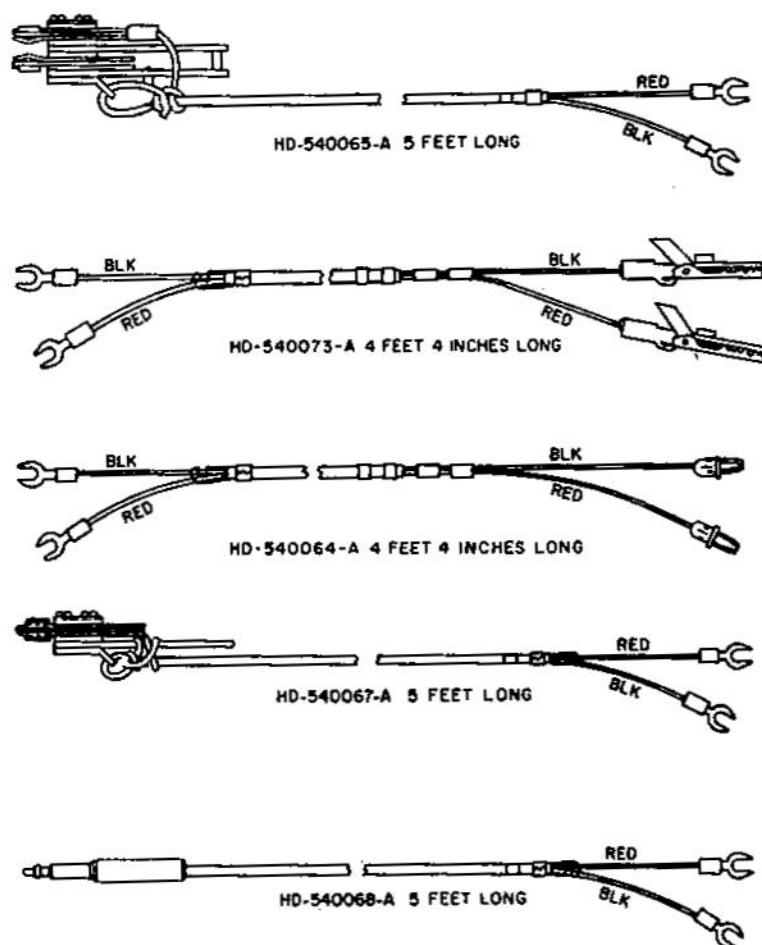
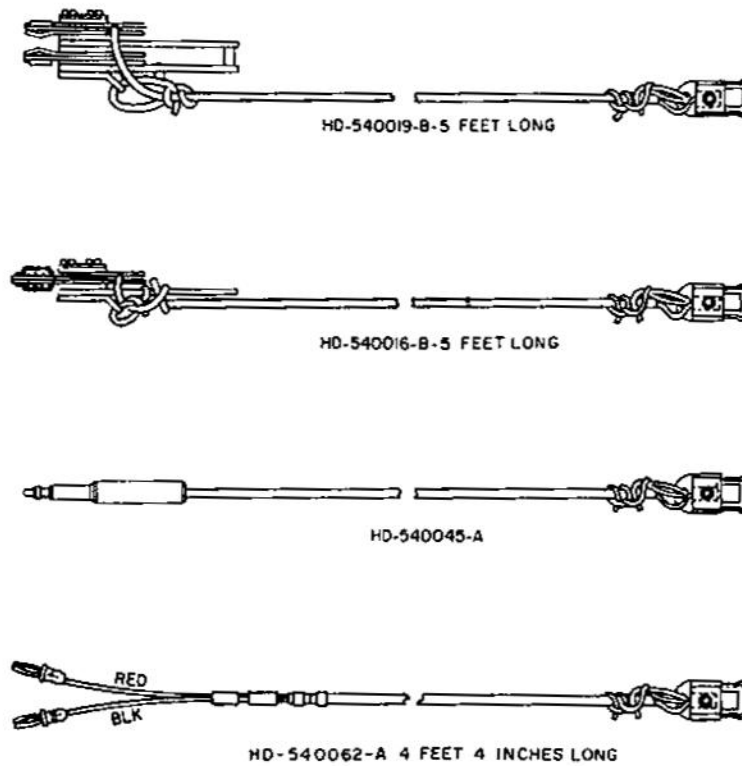

Figure 1. Miscellaneous Test Cords.
Figure 2. Central Office Test Cords.
2.02 The Type 800 can use all of the spade-terminated cord assemblies associated with the Type 801 (Figure 1 and Table 1). The Type 800 can be used with the central office test cords referred to in Figure 2 and Table 2, but certain modifications are necessary to offer this capability.
| HD-540073-A  | A 4-foot 4-inch-long, two-conductor cord, equipped with insulation-piercing alligator clips at one end and spade terminals at the other end (Figure 2).   |
| HD-540067-A  | A 5-foot-long, two-conductor cord (Figure 2), one end terminated with a two-contact plug for insertion into switch test jacks, the other end is terminated with spare terminals.  |
| HD-540064-A  | A 4-foot 4-inch-long, two-conductor cord (Figure 2), one end terminated with banana plugs, the other end with spare terminals.  |
| HD-540068-A  | A 5-foot-long, two-conductor cord; one end terminated with a switchboard type plug, the other end terminated with spare terminals (Figure 2).   |
| HD-540065-A  | A 5-foot-long, two-conductor cord, one end terminated with a four-contact plug (Figure 2) for insertion into switch test jacks, the other end terminated with spade terminals. A pushbutton on the four-contact plug is used to short two of the contacts on the switch being tested. |